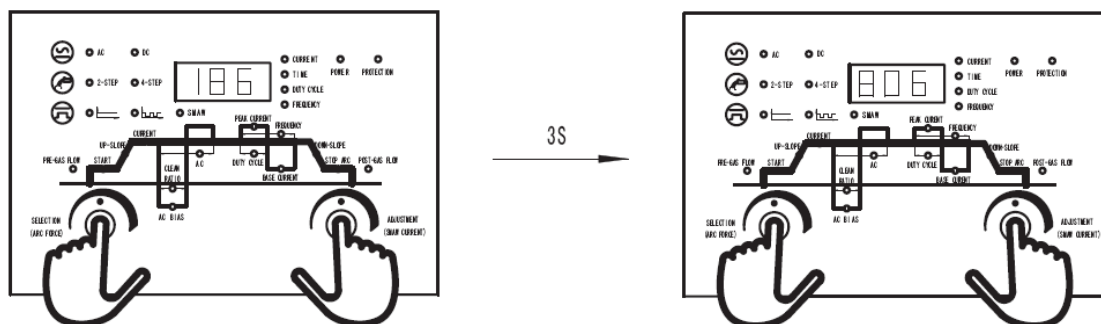

Fig. 4-3-7: Set to water-cooling state
- When using water-cooling torch, press and hold the parameter setting knob and adjustment knob at same time for 3 seconds, the machine will display "E0A/806" code and set to water-cooling state. Start the water-cooling unit and the "E0A/806" code will disappear automatically as soon as the water-cooling unit operates properly (Fig. 4-3-7).